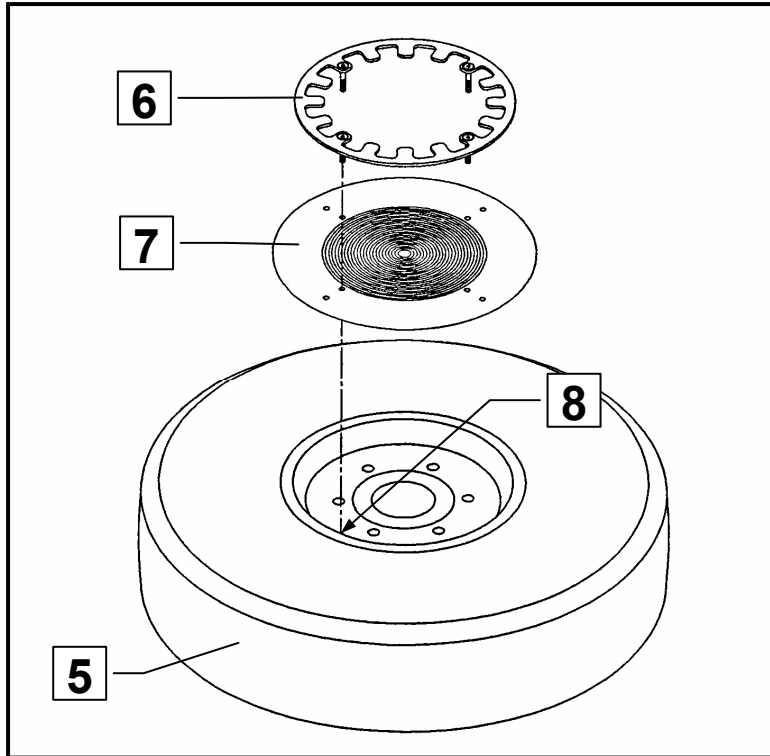

Fig. 4
- To start with, the wheel (5) to which the counting ring (6) is to be fitted is dismantled (fig. 4).
- Push the drilling template (7) over the four long screws of the counting ring (6) and align the ring centrally to the edge of the rim, to the hub opening and to other circular shapes of the wheel with the help of the circles on the drilling template. This can be done both on the outside and also on the inside of the wheel (fig. 4).
- Then the bores (8) are marked, centred and drilled with a 10.5 mm drill (fig. 4).